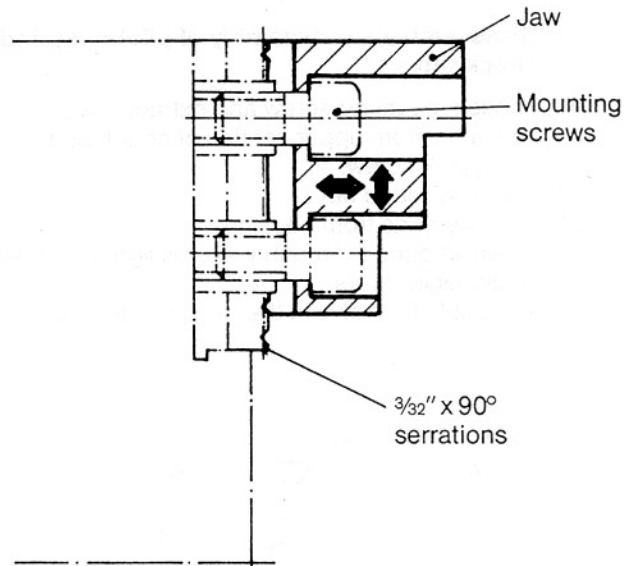

Fig. 4
5. Adjusting the jaws (Fig. 4)